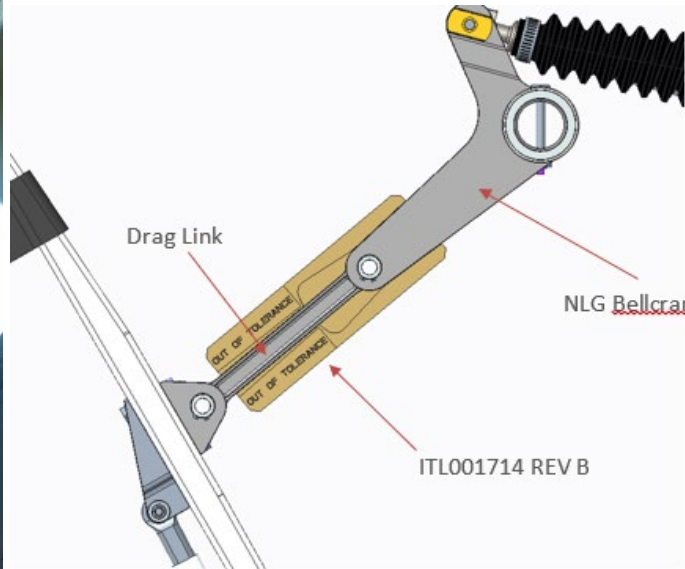

Figure 1. ITL001714
1.0 configuration NLG parts are not compatible with rig pins. Instead, ITL001714 can be used to verify rig. To use ITL001714, fit the curved opening over the bellcrank, as shown in **Figure 1**.